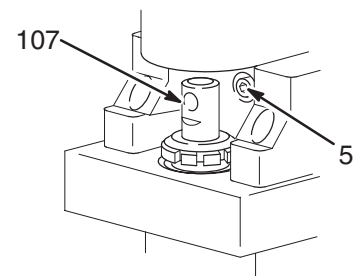
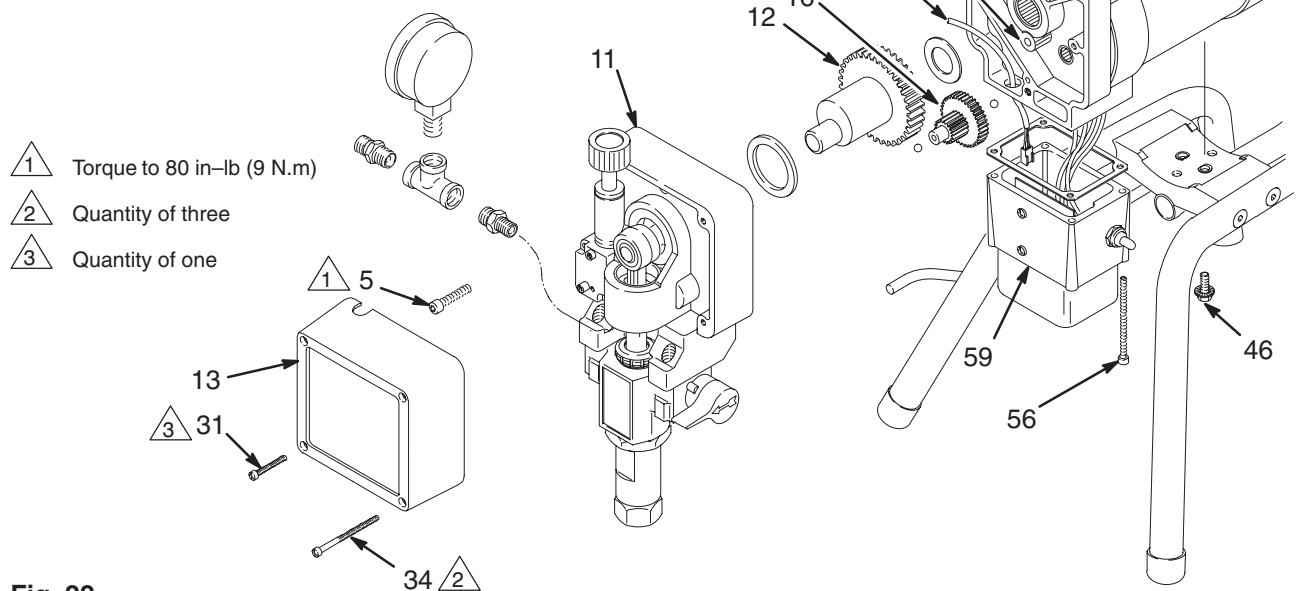
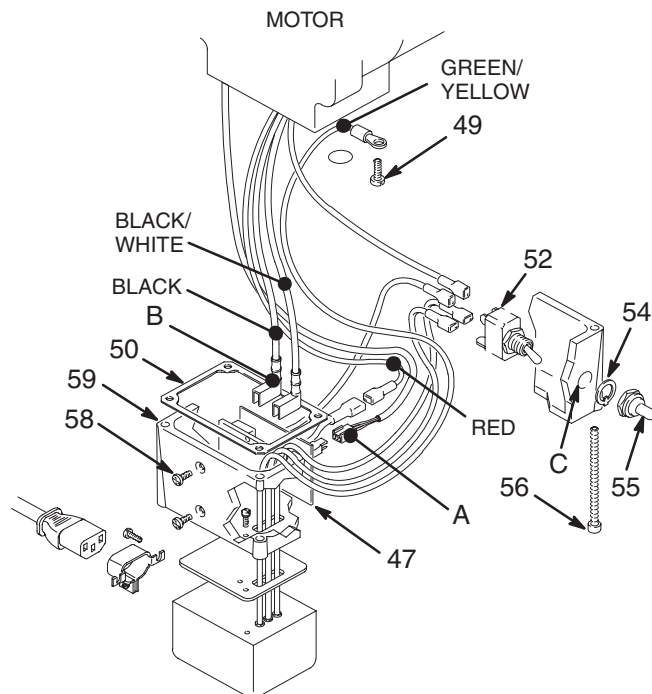

Fig. 21
Fig. 22
Fig. 23
NOTE: See Fig. 22 except where noted.
3. Remove the screws (56) and lower the junction box (59). Disconnect the motor wires and the pressure control wire (A) from the motor start board. Refer to Fig. 23 on page 24.
4. Remove the front cover (13).
5. Turn the displacement pump rod (107) so the pin hole aligns with the bottom drive housing screw (5). See Fig. 21. Remove the three drive housing screws (5). Also see Fig. 22.
6. Remove the two motor screws (5).
7. Tap the lower rear of the drive housing (11) with a plastic mallet to loosen the motor. Pull the drive housing straight off the motor while guiding the harness (A) from the motor. Do not allow the gear (16) to fall. Read the CAUTION on page 25.
8. Remove the two screws (46) and lift the motor off the base (66).
9. Align the new motor with the base and reinstall the screws (46).
11. Connect the wires in the junction box. Refer to Fig. 23 on page 24. Install the junction box.
12. Connect the piston rod (107) to the drive housing; see page 22, **Installing the Pump**, Step 2 and the WARNING following it.
NOTE: See Fig. 23 for this procedure.